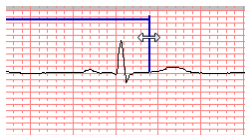

Figure 416 – Editing a defined Marker
2. Press and hold down the left mouse button and move the cursor to the new location (see Figure 416). The measurement border will move along with the cursor.